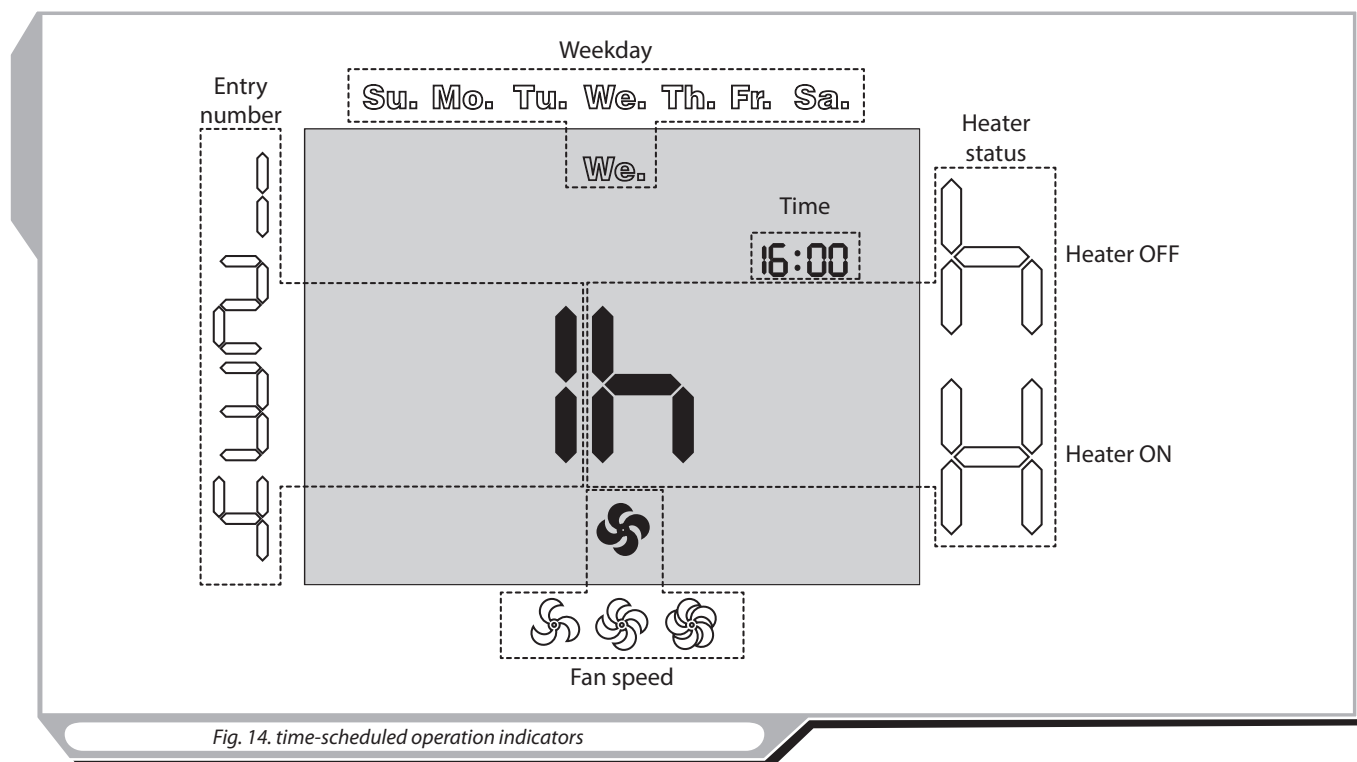

Fig. 14. time-scheduled operation indicators
- Scheduled operation setup mode parameters (Fig. 14):